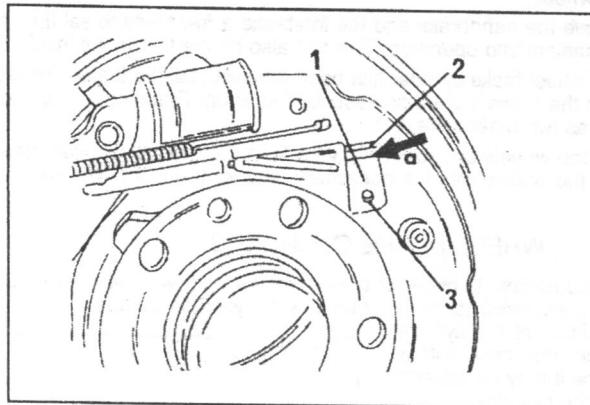

Fig. 8.13. — When fitting the automatic adjuster lever (1) fit the end "a" below the link (2) and above the pin (3).
- Fit the adjuster lever (1). Fig. 8.13 shows more details of the installation. The end "a" of the lever must be placed under the link (2) and above the pin (3).